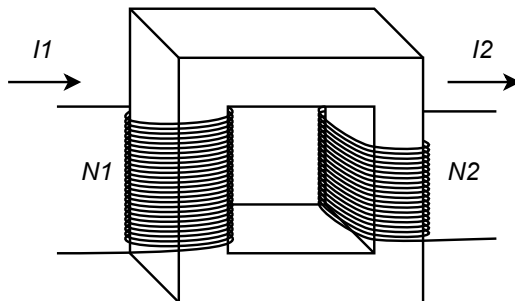

Figure 10.3
9. A transformer is shown in Figure 10.3, assume the cross section is 5 cm by 5 cm. The core is sheet steel with a path length of 20 cm. N_1 is 500 turns and N_2 is 200 turns. Determine the secondary current (I_2) if a primary current (I_1) of 1 amp establishes a flux of $1.5\text{E-}3$ webers.